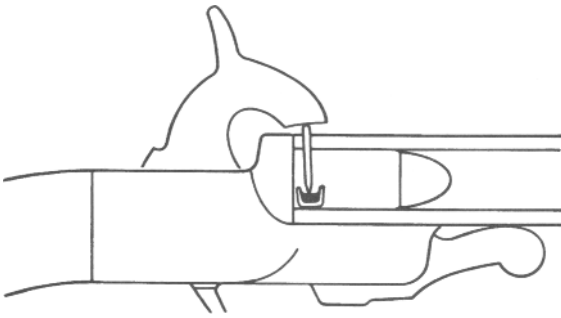

Figure 1.0.6 The pinfire.
1.0.4 The pinfire system (Figure 1.0.6)